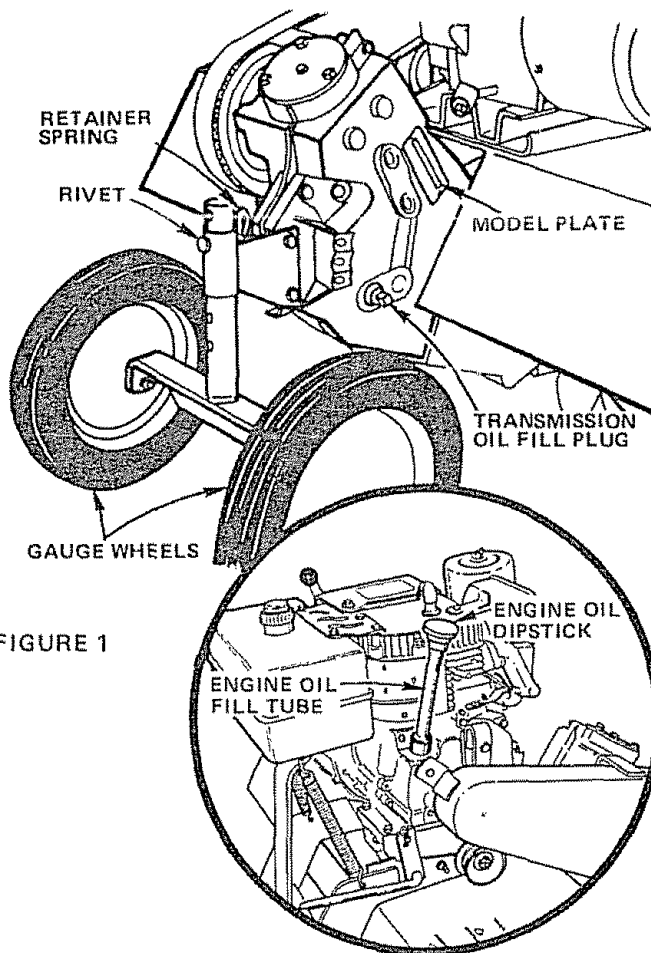

FIGURE 1
THE MODEL AND SERIAL NUMBERS WILL BE FOUND ON THE MODEL PLATE ATTACHED TO THE RIGHT HAND SIDE OF THE TRANSMISSION (FIG. 1).
2. Adjust Tiller Gauge Wheels so that engine is level (Fig. 1).
3. **IMPORTANT:** Check oil level in Tiller Transmission. Refer to Fig. 1 for location of Oil Fill Plug. The Transmission was filled at the factory and oil should be to level of Filler Plug Hole. Tiller must be level. If oil needs to be added Tiller can be laid on its side to fill Transmission. Use S.A.E. No. 30 Motor Oil (SC, SD or SE). Replace Oil Fill Plug.
4. **IMPORTANT:** ENGINE IS SHIPPED WITHOUT OIL. Fill Engine Crankcase with S.A.E. No. 30 Motor Oil (SC, SD or SE). Capacity is 1 - 1/2 pints (24 ounces). Refer to Fig. 1 - Inset for Oil Fill Tube location.